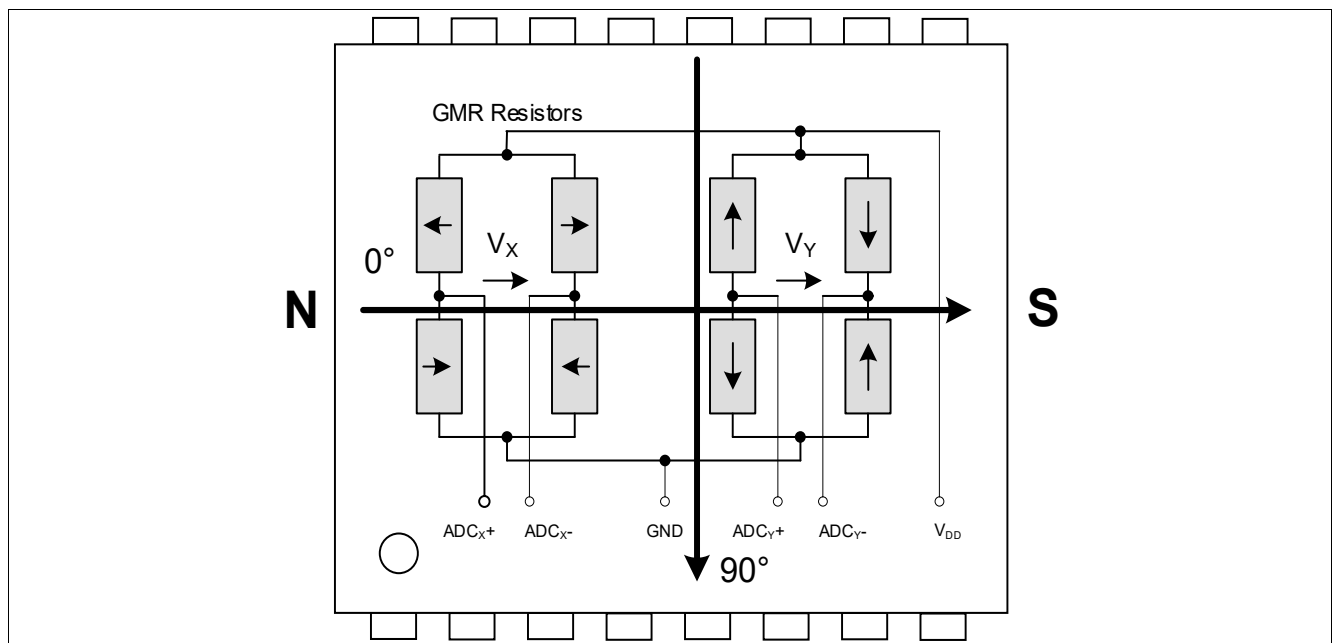

Figure 2 Sensitive bridges of the GMR sensor
*Note: In **Figure 2**, the arrows in the resistors symbolize the direction of the reference layer. The size of the sensitive areas is greatly exaggerated for better visualization.*